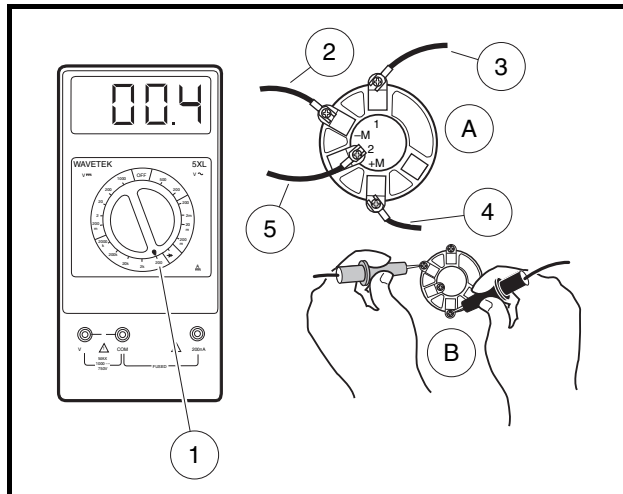

Figure 12-29 Key Switch Test – Engine Kill Circuit
4. Place the red (+) probe on the (+M) terminal and the black (–) probe on the (–M) terminal. With the key switch OFF, the reading should be continuity. With the key switch ON, the reading should be no continuity. If either reading is incorrect, replace the key switch (**Figure 12-29, Page 12-28**).